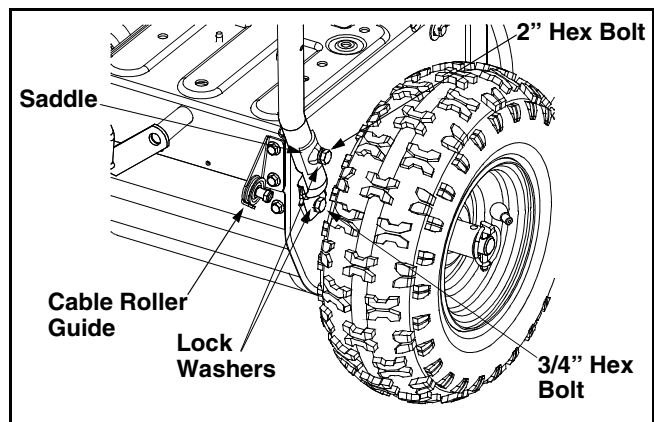

Figure 6
- Raise the handle assembly into the upright position and align the top holes in the handle with the top holes in the snow thrower frame. Attach using 2" long hex bolts, lock washers and saddles. (Curve in saddle must match the curve in the handle.) See Figure 6.
- Make certain all cables are in the grooves of the cable roller guides in the lower rear of the unit, one on each side. Refer to Figure 6.